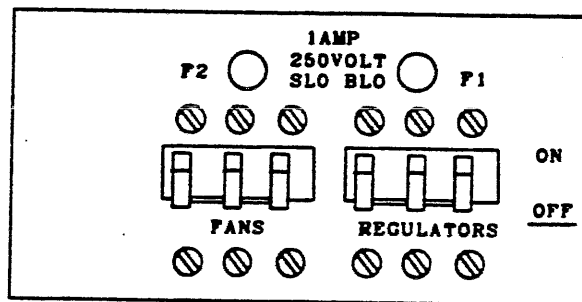

FIGURE 4-3. FANS AND DC REGULATORS CIRCUIT BREAKERS AT S03 (OFF POSITION)
2. Verify that the circuit breakers located at S03, labeled FANS and REGULATORS, are in the OFF position. See Figure 4-3.